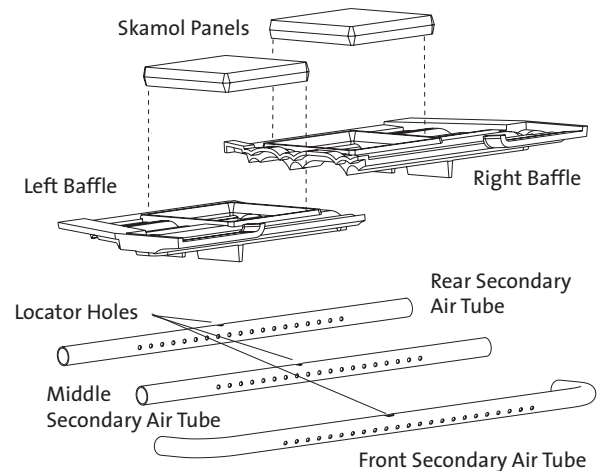

Figure 12.
The cast iron baffles must be removed to secure the draw-down adaptor to the firebox. The Left Baffle has three bosses cast into the underside that engage with corresponding locator holes in the air tubes to lock each tube in correct position. Use a flashlight to locate the bosses by lifting up on the Left Baffle. See fig. 12.
3. Attach the Leg plates. The Legs must be oriented with the Hang Tabs on the inside edges as shown in fig. 12. Use the two remaining M6 x 12 hex head flange bolts to attach the Legs to the Breastplate assembly.